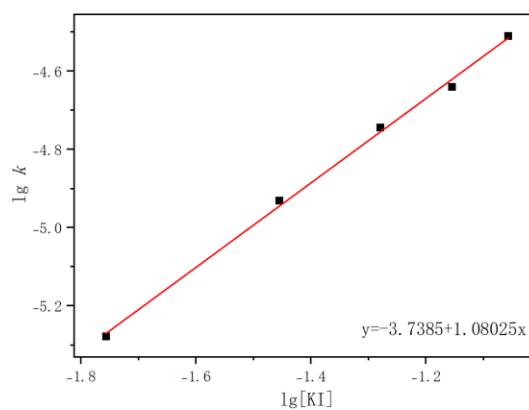

Fig.2
2. Effect of concentration of KI: do $\lg k - \lg[KI]$ graph **Fig.2** We can get its equation: $y = -3.7385 + 1.08025x$. The slope is 1.08025. Therefore, the reaction order of KI is approximately $n=1$. Therefore, the total reaction order is 2.